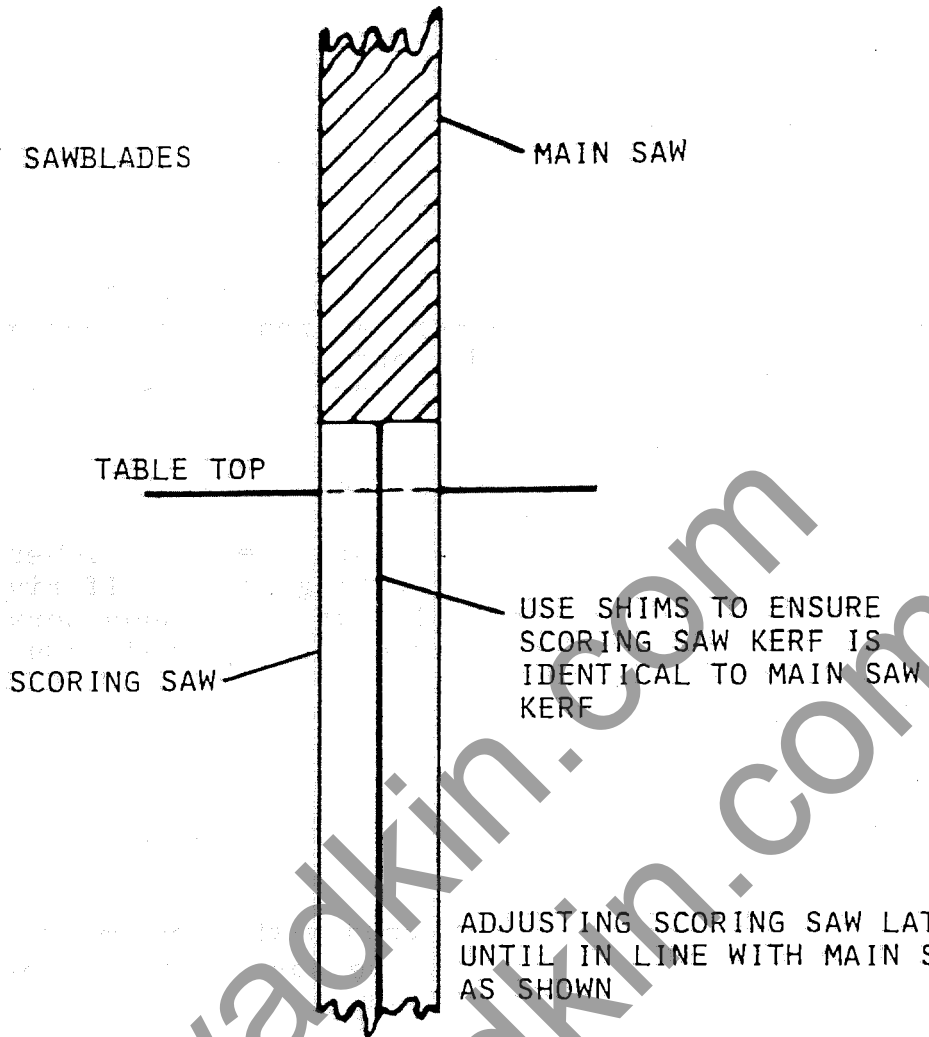

FIG. 31.
- NOTE: See FIG.31, for use of shims as fitted between scoring saw blades for correct kerf alignment.
4. Proceed to take trial cuts to establish the accuracy of the alignment of the scoring blade with main blade. The correct alignment is shown in FIG.31.